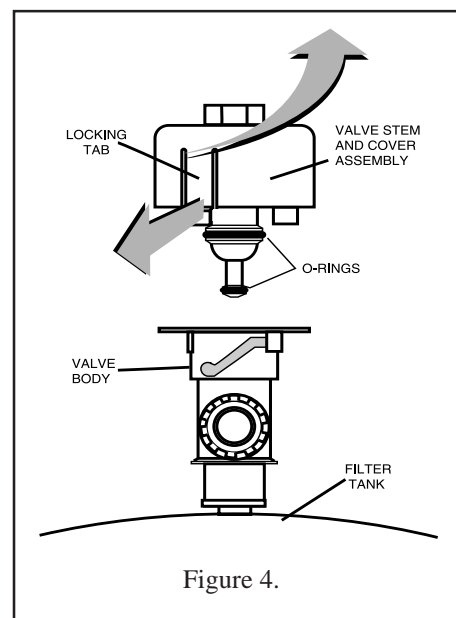

Figure 4.
3. With the High Flow™ manual relief valve attached to the filter tank, pull out the locking tabs and remove the valve stem and cover assembly with a counter-clockwise and lifting motion, see Figure 4.